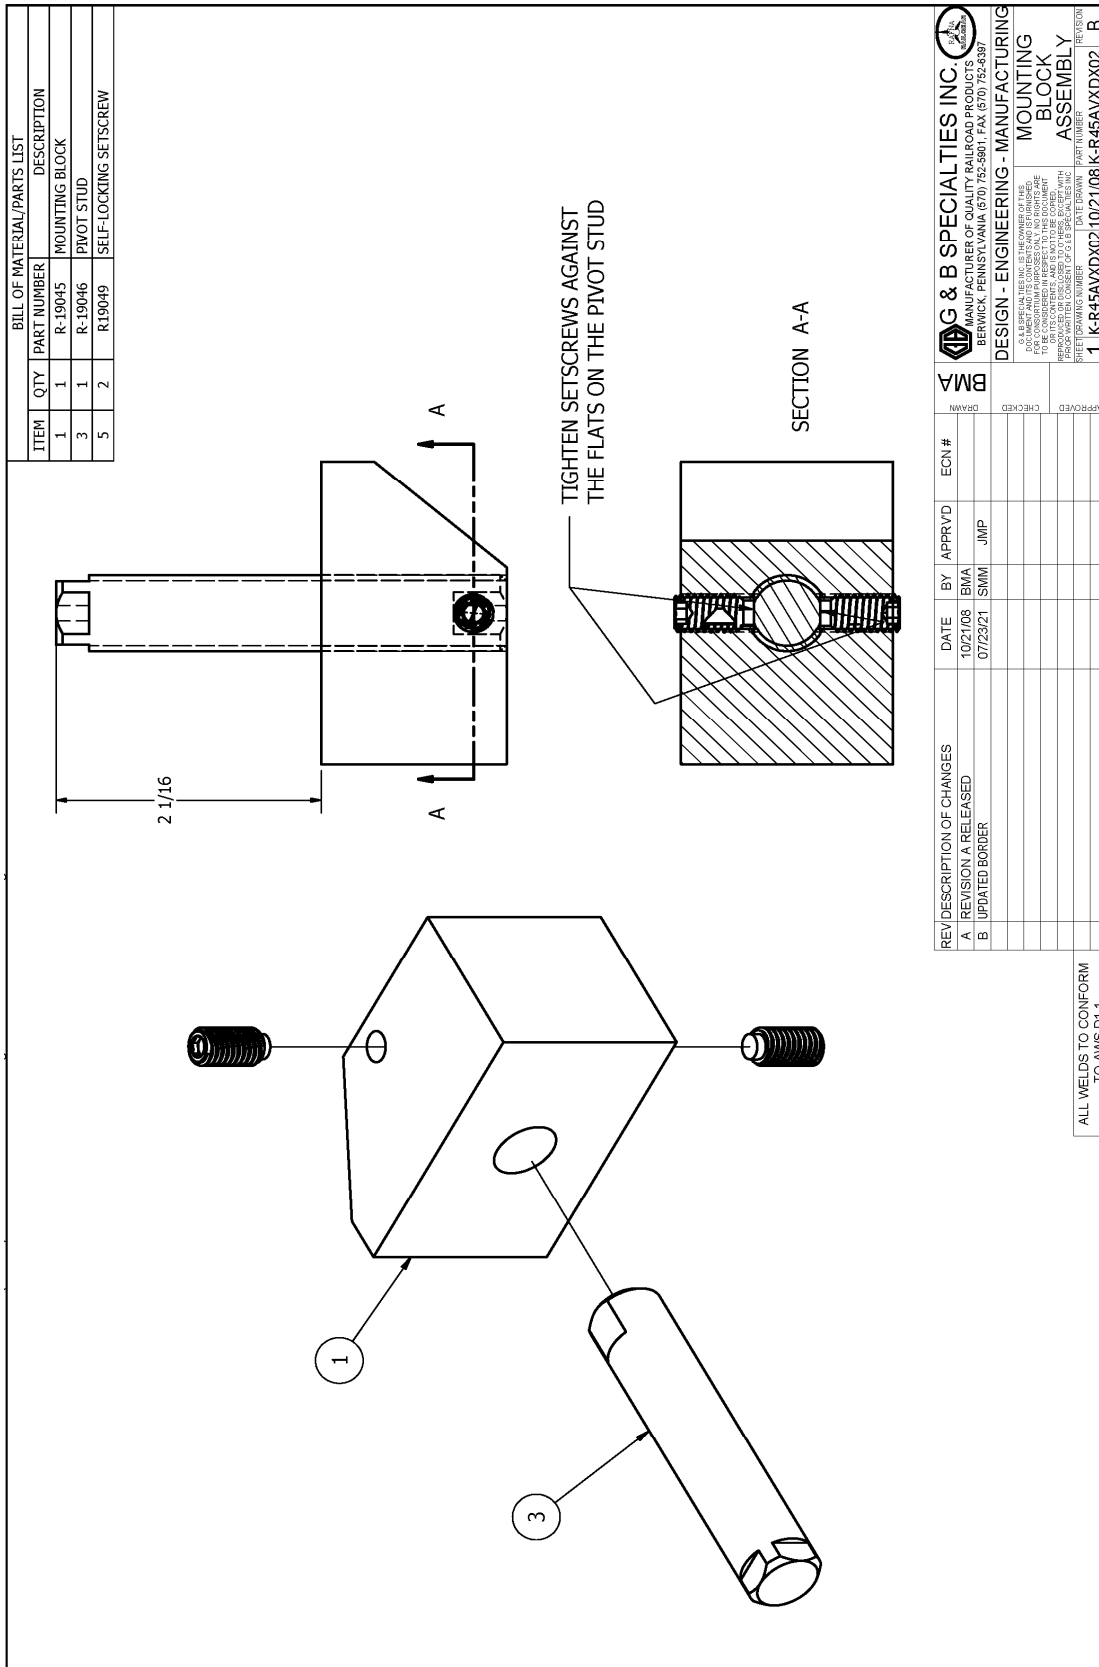

Figure 1: Mounting Block Assembly
4. Bench assemble the mounting block, pivot stud, and self-locking setscrews making sure the setscrews fasten tight against the flats on the pivot stud as shown in Figure 1.